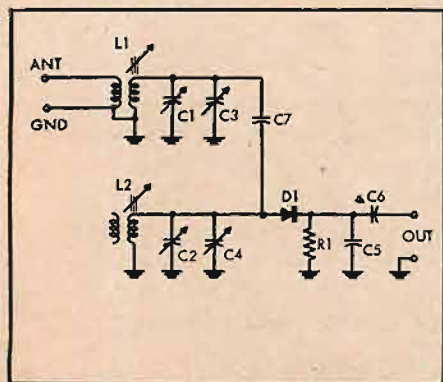

Fig. 1. A simple high fidelity AM tuner.
A. Here is one designed by the author and used successfully by him for some years. It is simple and low-cost but yet possesses excellent fidelity. As can be seen from Fig. 1, this is nothing more than the old-fashioned crystal set with an additional tuned circuit to improve its selectivity. The output of the receiver is quite low, so it must be fed into a high-gain microphone input to obtain sufficient listening level.
Construction: The unit may be built into one of the standard aluminum utility boxes, easily obtainable from any radio supply house. Be sure that coils L_1 and L_2 are shielded from each other, so that coupling can exist only via C_7 . It would be best to use coils which are already shielded; however, the shield can take the form of a strip of metal placed vertically between the two coils, and grounded to the box. Electrically insulate the variable capacitor, C_7 , from the box. Run a piece of braid or bus wire from each wiper to separate points on the box. Make all ground connections for L_1 to the point where the wiper for C_7 is grounded; make all other ground connections to the point where the wiper for C_2 is grounded. C_3 and C_4 should be mounted directly across C_1 and C_2 if possible. C_7 is a capacitor made by twisting two pieces of insulated wire together. The gauge of the wire and the thickness of the insulation are not critical. One end of the pair is dead-ended, making sure there is no electrical contact between the wires. The other end of the twisted pair is connected as shown in Fig. 1. The twisted pair should be 6 to 8 inches long at the beginning of the alignment process.